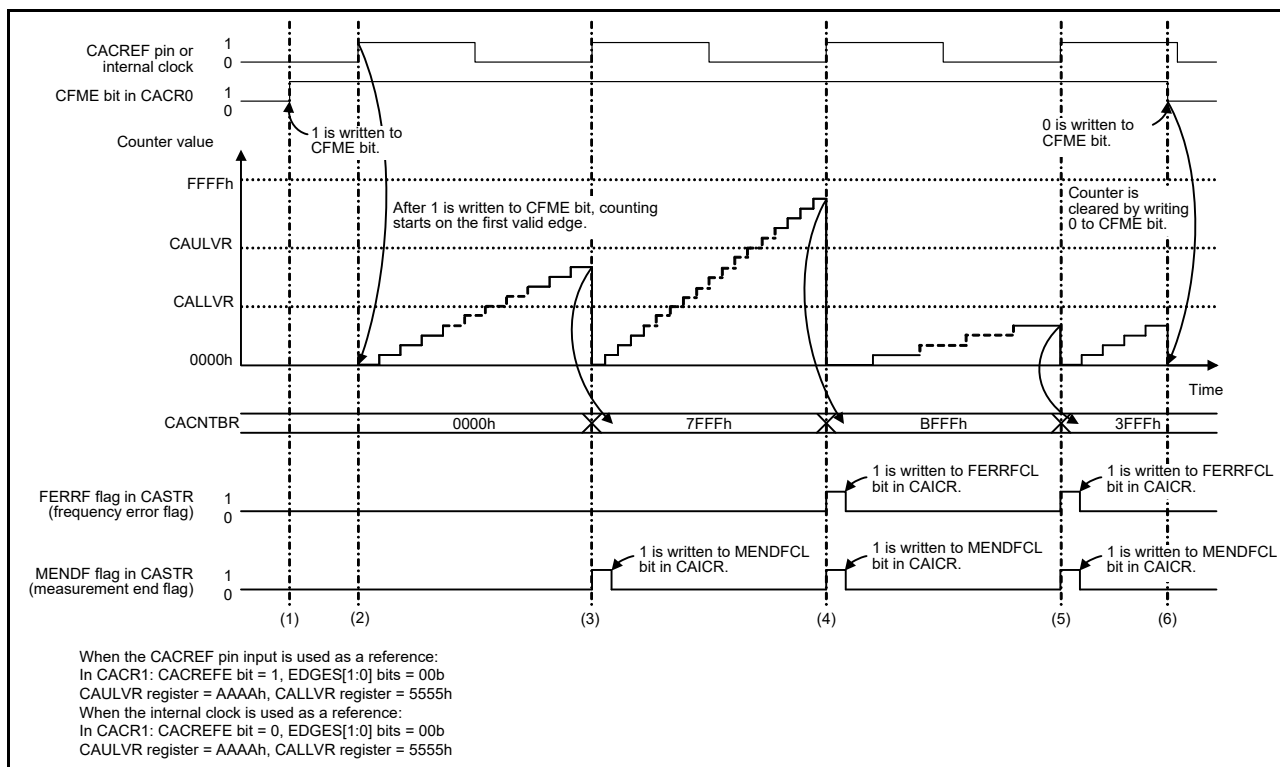

Figure 10.2 CAC operating example
The CAC measures the clock frequency using the CACREF pin input or the internal clock as a reference. Figure 10.2 shows an operating example of the CAC.
In Figure 10.2:
2. The timer starts counting up if the valid edge selected in the CACR1.EDGES[1:0] bits is input from the measurement reference clock. In Figure 10.2, the valid edge is a rising edge (CACR1.EDGES[1:0] = 00b).